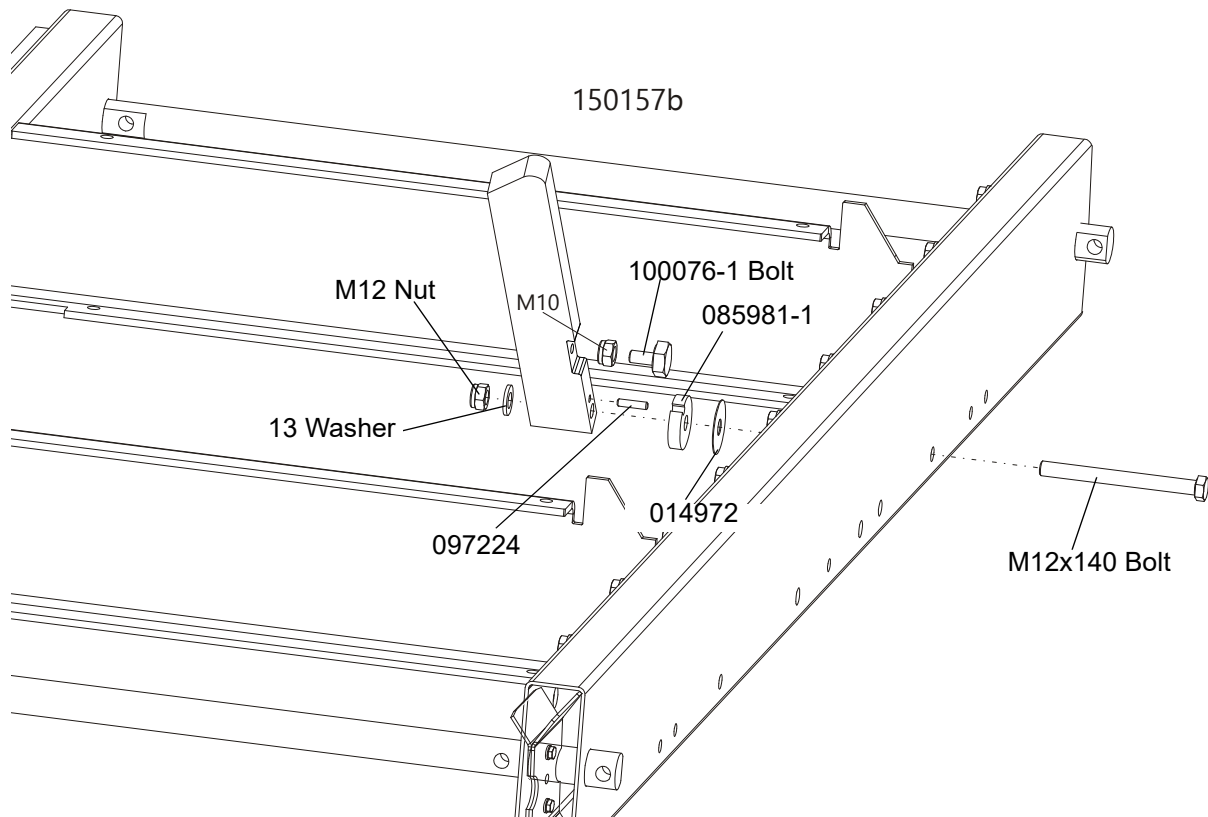

FIG. 3-6
8. Install the log side supports as shown in Figure 3-6. Tighten the nuts so that the side supports can be moved with little resistance. Adjust the side supports. See Section 4.10 Side Supports.
See Figure 3-6.